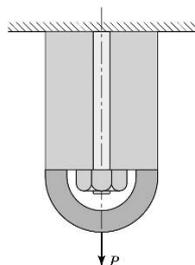

Fig.14
19. In an assembly with loading arrangement equivalent to Fig. 14, the bolt is M20 \times 2.5, and the total load varies from 9000 to 45,000 N. The material in the bolt tests $\sigma_{ult} = 910$ MPa and $\sigma_{yp} = 450$ MPa, with stress concentration factor for the threads equal to 3.85. Let the factor of safety based on the yield point be 2, and let E for both part and bolt be equal to 206,900 MPa. The threads are machined. The cross-sectional area of the part is equal to 800 mm².